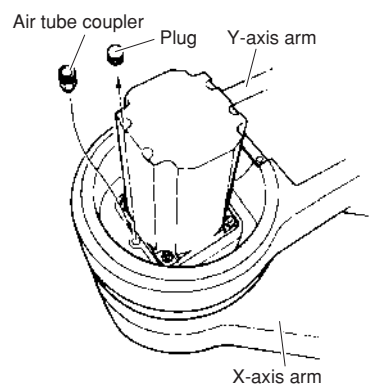

Fig. 5-29
- 6) Remove the plug on the top of the Y-axis arm. (See Fig. 5-29.)